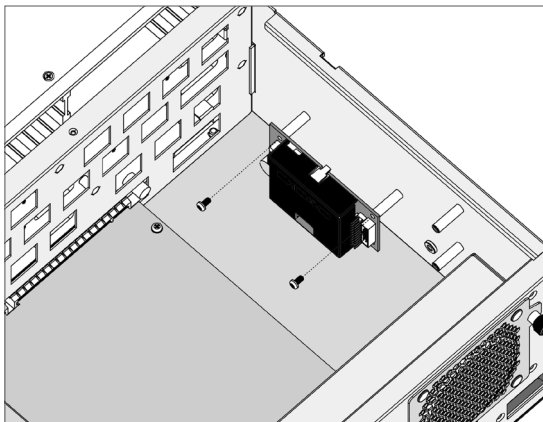

Figure B-6, Secure the Battery Module
2. After removing the cover, then secure the battery pack module (ARC-6120-BAT-12G, reference NO.1 in Figure B-1) on the right side within the enclosure (for ARC-7316), as shown in Figure B-6.